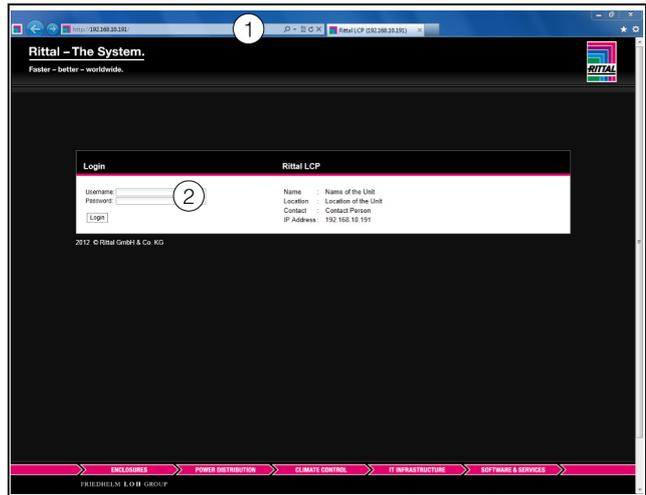

Fig. 89: Log-on screen with an HTTP connection
- In the browser, enter the address **http://192.168.0.190** (fig. 89, item 1). The log-on dialogue for registering the device will appear.
- Log in with the username **admin** and the password **admin** (fig. 89, item 2).